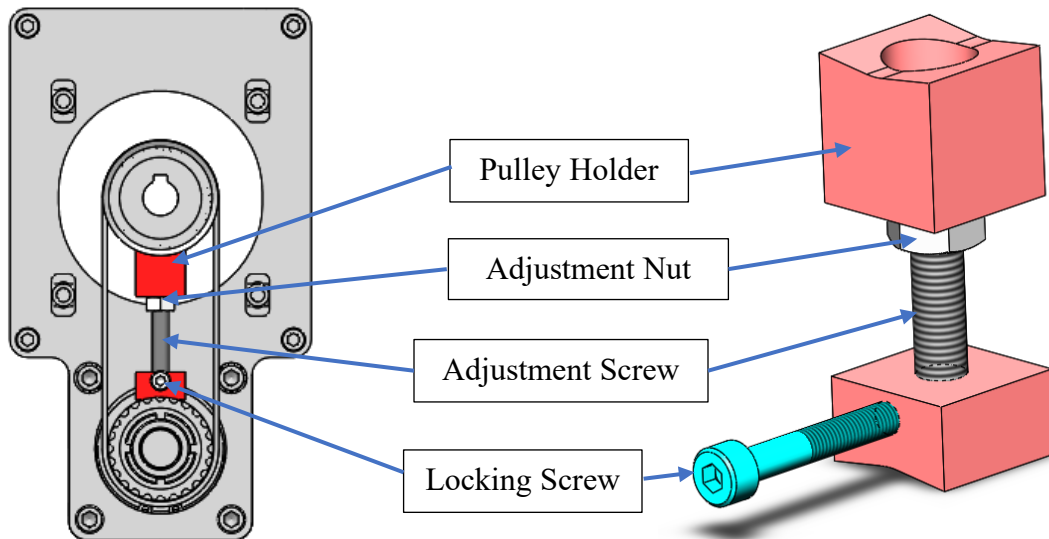

Figure 4.1: Reverse parallel tensioning tool
4. If using the Reverse Parallel Tensioning tool (Fig. 4.1) follow the steps below, otherwise, go to step 5.